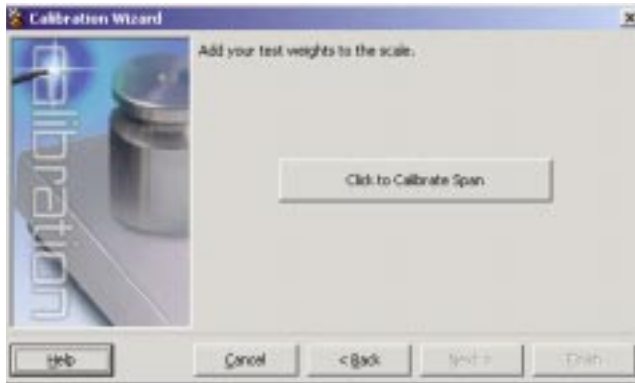

Figure 4-7. *iRev* Span Calibration Display
- Apply the test weights to the scale. Press the *Calibrate Span* button to perform the span calibration (see Figure 4-7). A message box appears when the process is complete.